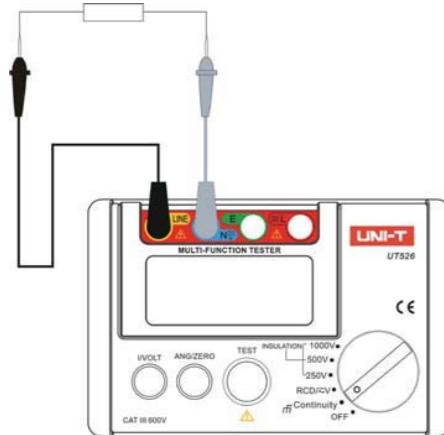

Figure 2
VIII. Testing for Continuity(See Figure 2)
- Connect the tested object and the Tester as shown in Figure 2;